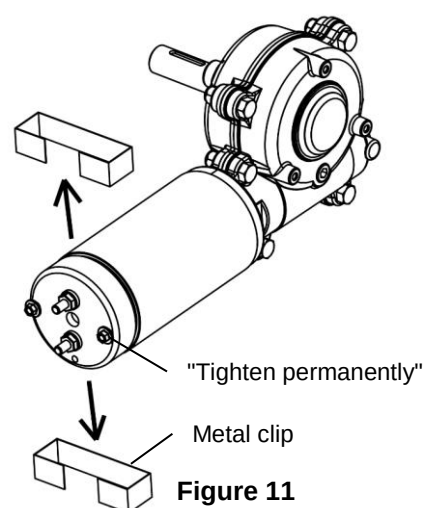

Figure 11
9. **Figure 11.** Gently remove the two metal clips and push on the cover so it is positioned adequately.